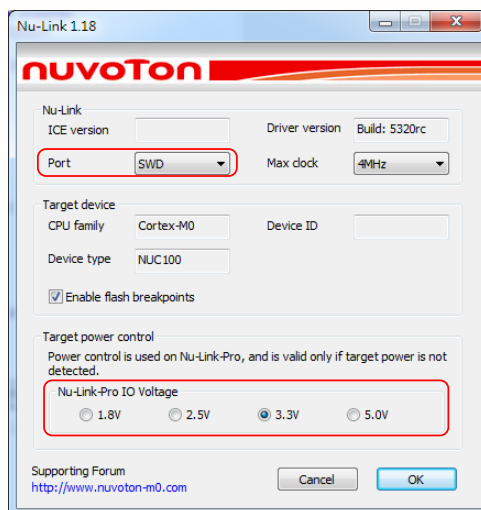

Figure 4-19 Specify the Port and Target I/O Voltage
Step 9: Invoke **Nu-Link** to open the *Nu-Link* form, select **SWD** as the Port, and specify the **Nu-Link-Pro I/O Voltage** in the **Target power control** section (3.3V in this case), as shown in Figure 4-19.